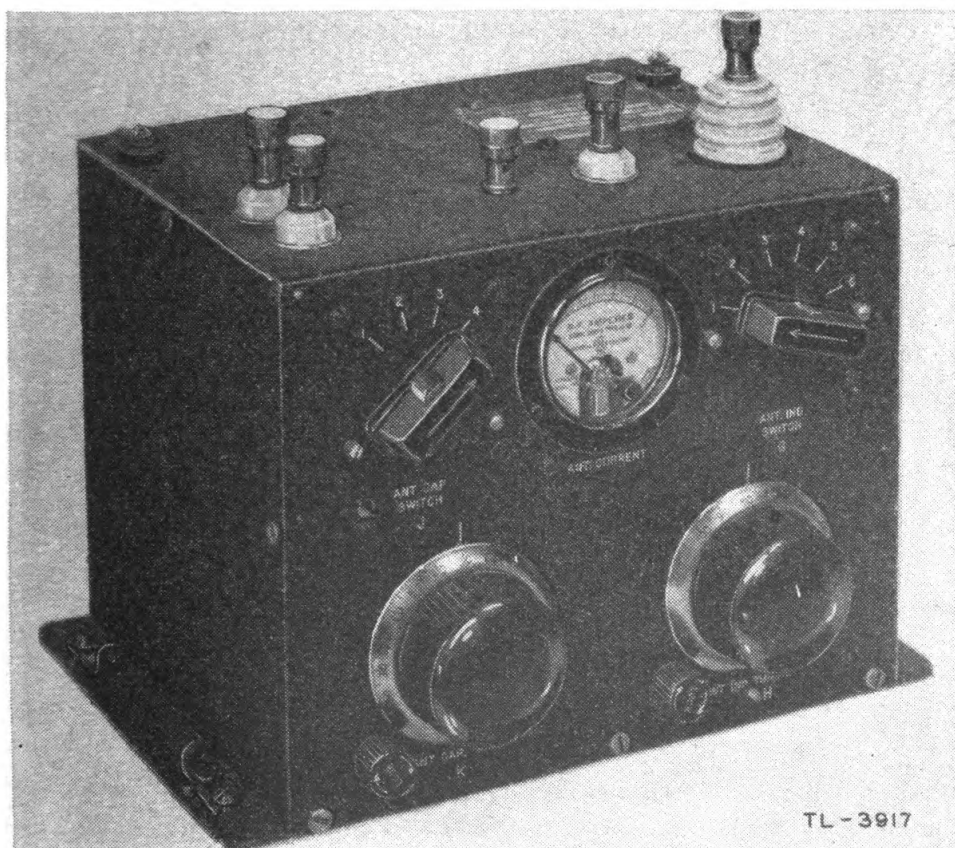

FIGURE 27.—Antenna tuning unit BC-AA-194—front view.
b. Antenna tuning unit BC-AA-194 is contained in a similar dural housing. (See fig. 27.) It consists of a tapped variometer 97, a variable capacitor 93, and two fixed capacitors 91, 92. There are four controls on the front: variometer tap switch 96, labeled ANT. IND. SWITCH G, variometer control ANT. IND. TUNING H, tap switch 94, labeled ANT. CAP. SWITCH J, and variable capacitor 94 control ANT. CAP. TUNING K. This unit is for use with aircraft and fixed station antennas at frequencies above 800 kilocycles.